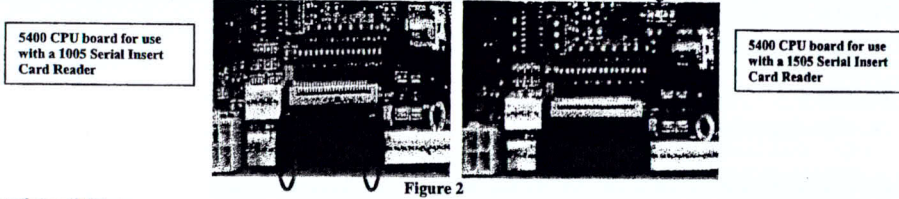

Figure 2
8. Attach the ribbon cable from the card Reader to the CPU Board connector as shown below in Figure 2.